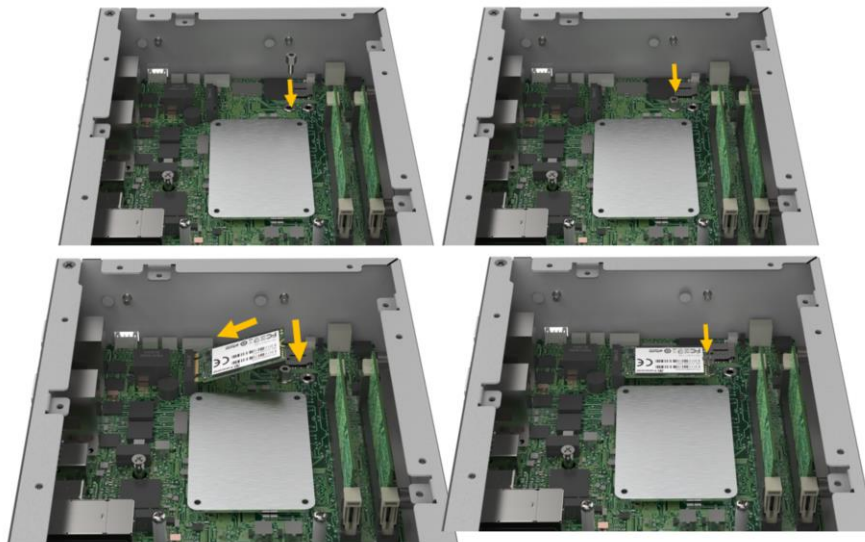

Figure 3-4: M.2 Installation
- Step 2:** Insert the M.2 SSD into the M.2 slot and fasten the screw removed previously (Figure 3-4).